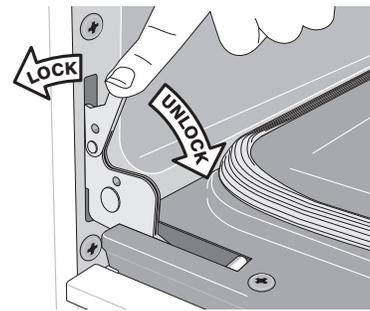

Figure 44: Door hinge locks
2. Pull the door hinge locks on both left and right door hinges down from the oven frame completely towards the oven door (Figure 44). A tool such as a small flat-blade screwdriver may be required.
4. Push the door hinge locks up towards and into the oven frame on both left and right oven door hinges to the locked position (Figure 44).